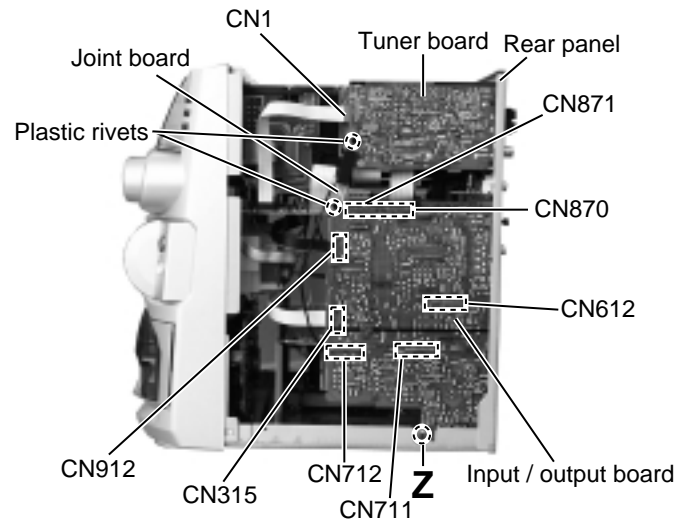

Fig.21
**<Rear panel assembly>****■ Removing the tuner board****(See Fig.21 and 22)**
**■ Removing the input / output board****(See Fig.21 and 22)**
1. Remove the input / output board (Refer to Fig.21 and 22).